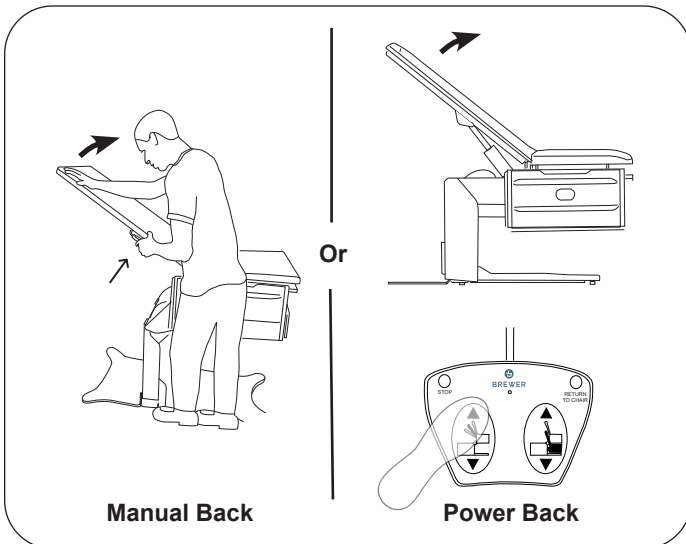

Figure 11. Raise Backrest
13. Raise the backrest to its full up position (Figure 11).